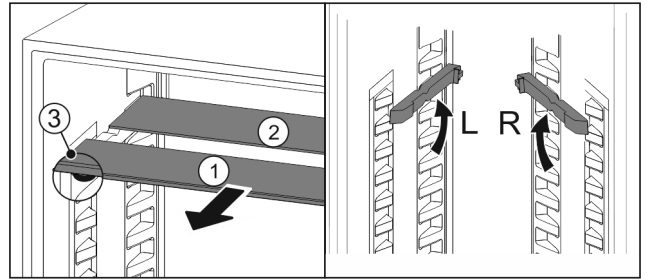

Fig. 153
- ▶ Pull the glass panels out Fig. 153 (1) from the front, one at a time.
- ▶ The glass panel Fig. 153 (1) and trim strip are at the front.
- ▶ The stops Fig. 153 (3) point down.